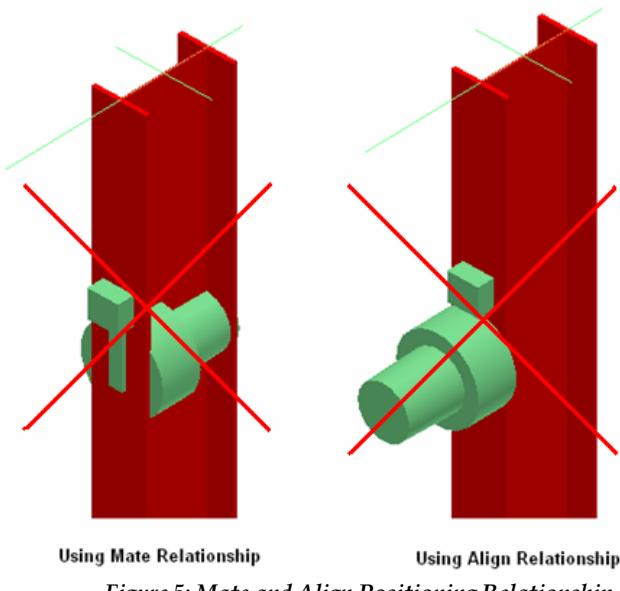

Figure 5: Mate and Align Positioning Relationship
- If you are planning to create positioning relationships among the electrical equipment and design objects in the model, ensure you select the appropriate positioning relationship. You might end up positioning the electrical equipment, as shown in Figure 5.